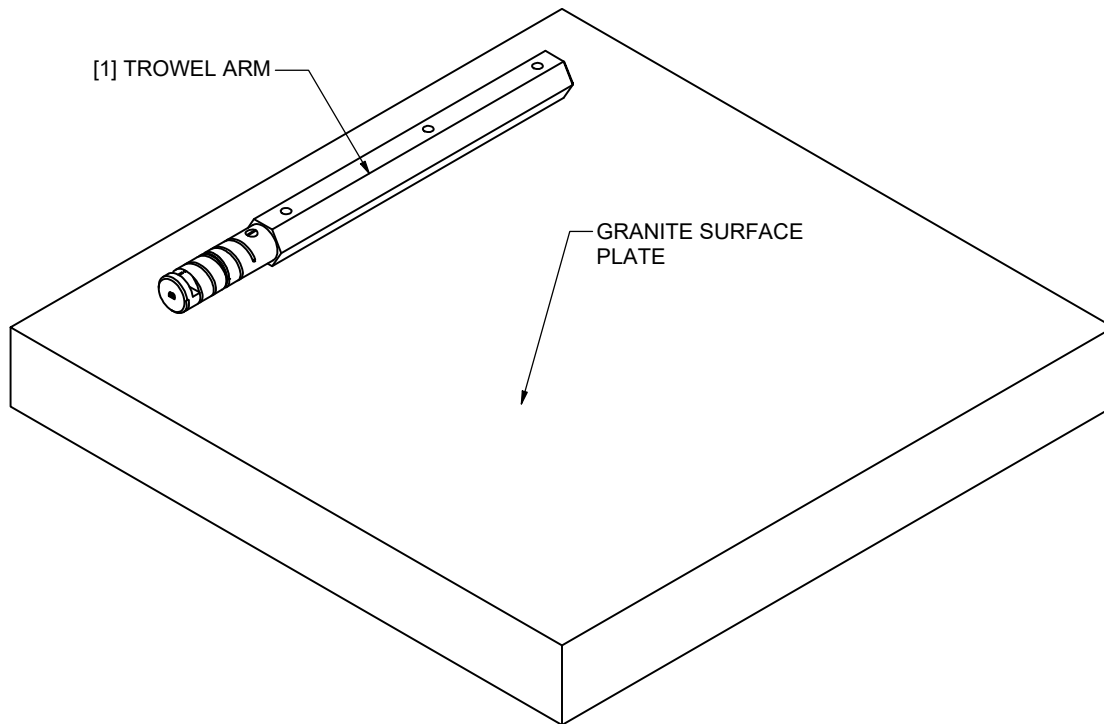

Figure 1.4-2
Step 2: Place the trowel arm onto a extremely flat and stable surface. It is highly recommended that a granite surface plate be used to perform this procedure accurately. Refer to Figure 1.4-2.